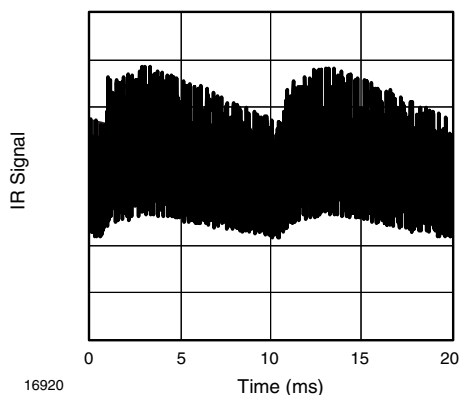
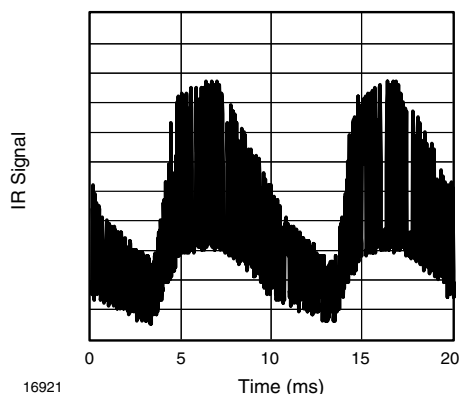

Fig. 14 - IR Signal from Fluorescent Lamp with Low Modulation
Fig. 15 - IR Signal from Fluorescent Lamp with High Modulation
- Strongly or weakly modulated noise from fluorescent lamps with electronic ballasts (see figure 14 or figure 15)